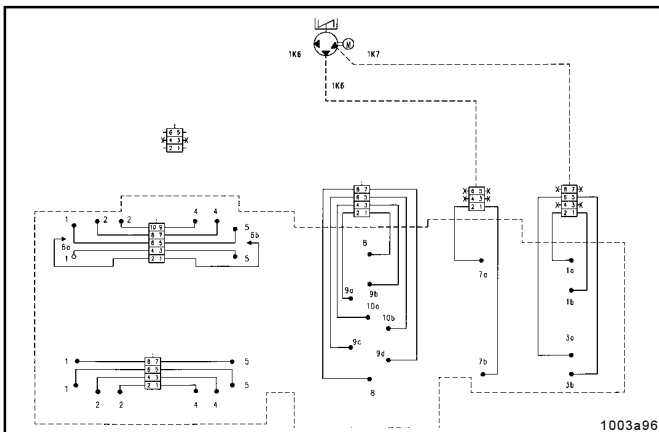

Fig. 40 - Determining the size of the main metering device
- Check whether one or more secondary metering devices require larger lubricant quantities. See direct connection of the metering device to respectively one single pump element, example Fig. 40.